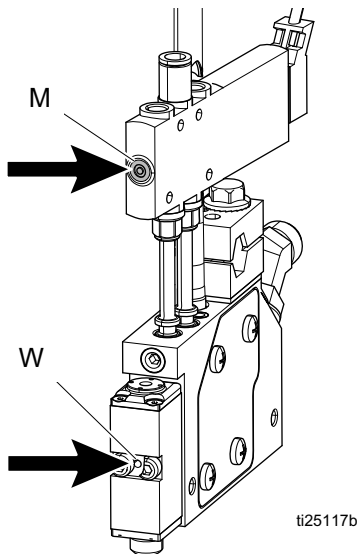

FIG. 11
1. Visually check for the presence of glue in the weep hole (W). See **Figure 11**.